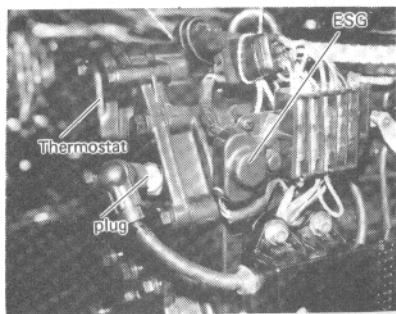

Fig. 37
- ESG and overspeed prevention device are provided. ESG prevents over-revolution caused when the out-board motor jumps up from water. (Fig. 37)